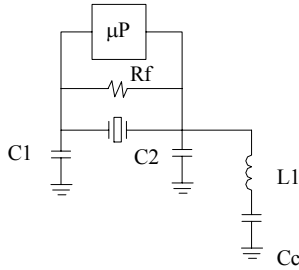

Figure 11
•The L_1/C_c and C_2 components form a *parallel resonant circuit* at a frequency about half-way between the fundamental and third-overtone frequency. This condition makes the circuit capacitive at the third-overtone frequency, which favors the oscillation at the desired overtone mode. See figure 11.